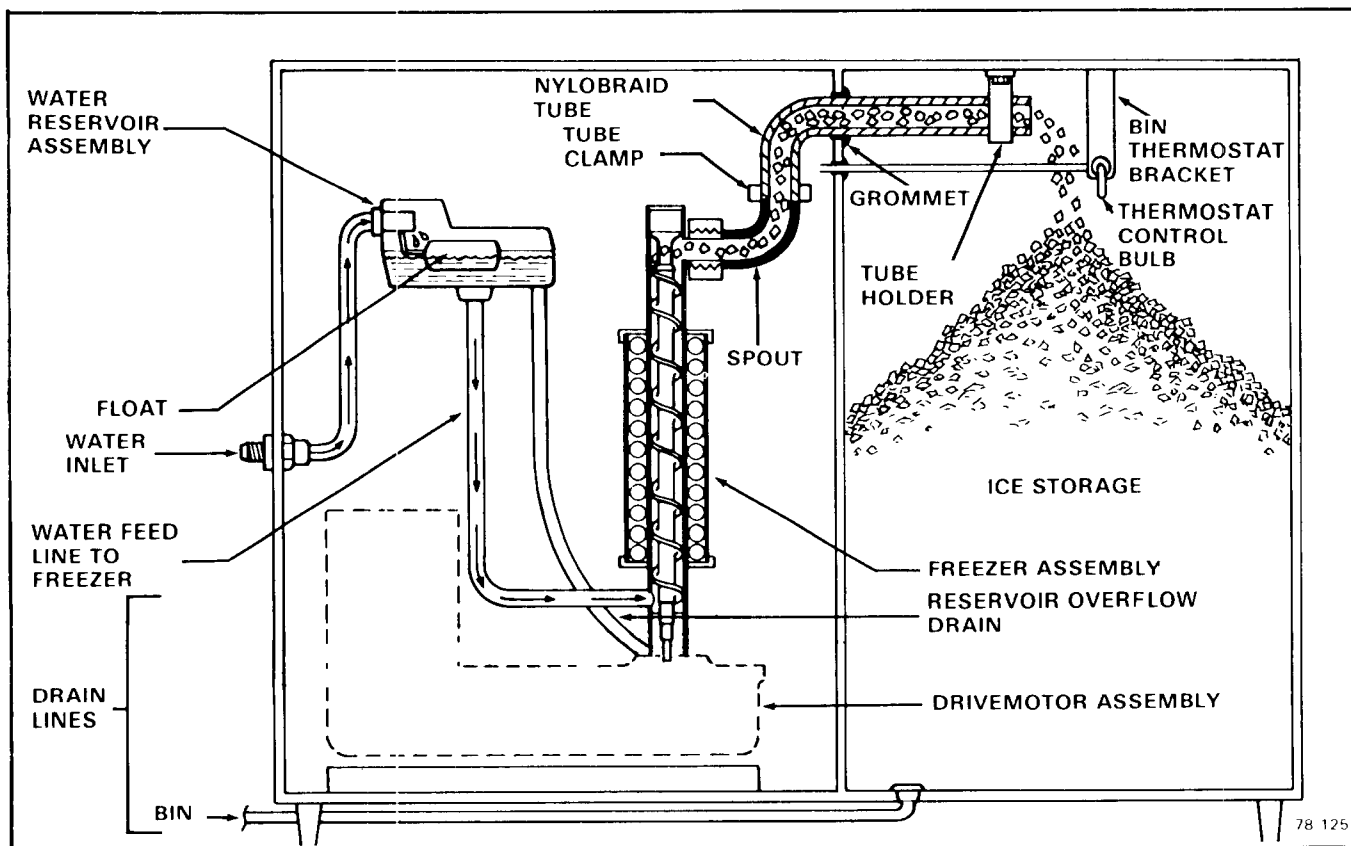

Figure 2-1. Water Schematic
4. Observe the water filling operation, see Figure 2-1: